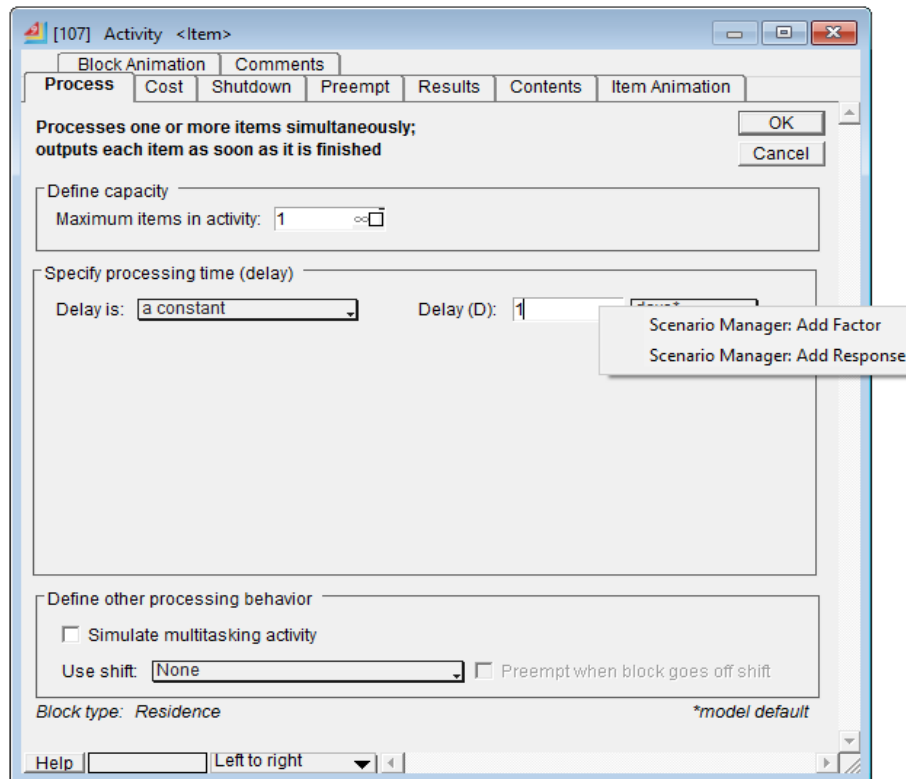

Figure 4: An Activity block window showing the option to add the Delay as a factor. This menu is accessed by Shift+Left Click in the dialog box.
1. Open the block that contains the factor you want to add to the Scenario Manager. Figure 4 shows the process dialog for an activity block.